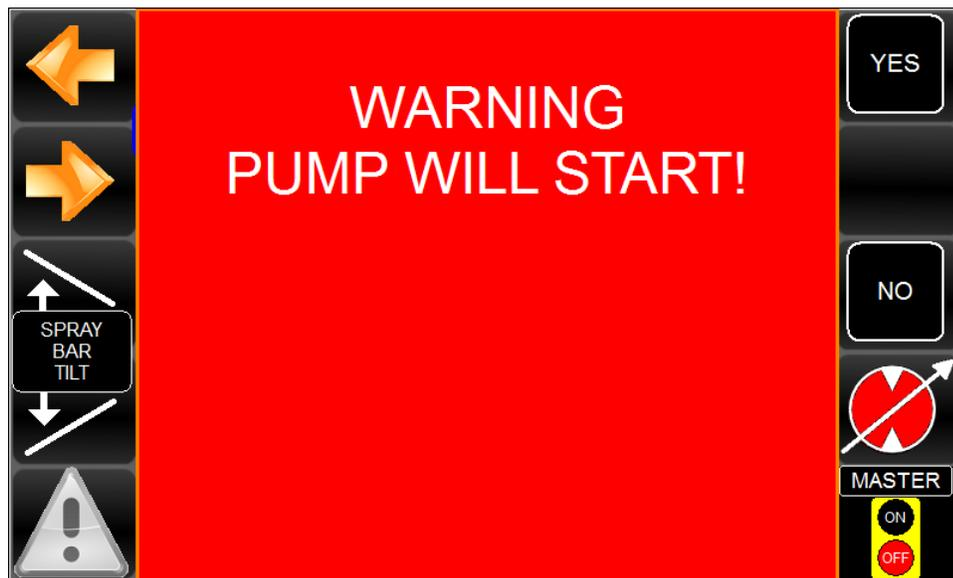

Figure 33: Pump will start warning screen
3. Press the **Pump on/off** key [4R]. “Warning. Pump will start!” (Figure 33) will appear.